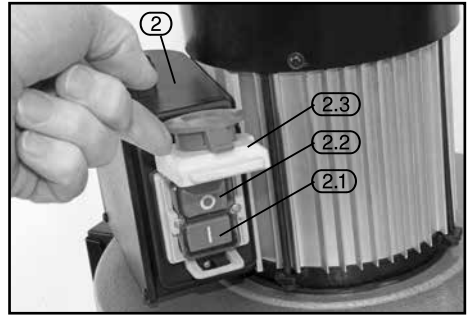

FIG. 9
9.1 NO-VOLT ON/OFF SWITCH – FIG. 9